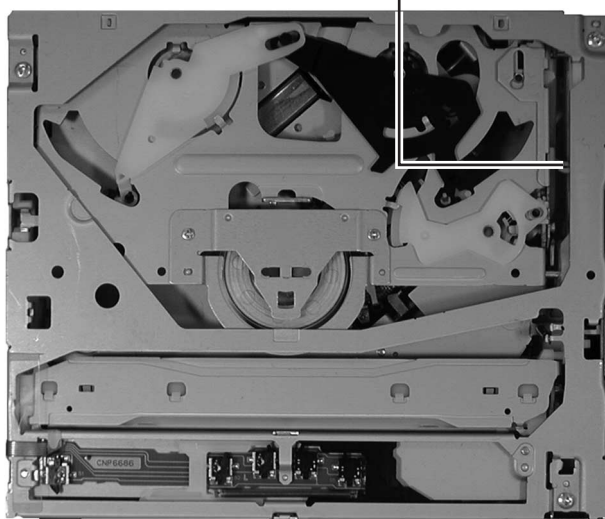

Fig. 10
3. After the clamp operation ends, stop the operation before the objection of the loading rack touches the load lever R. (fig. 10)